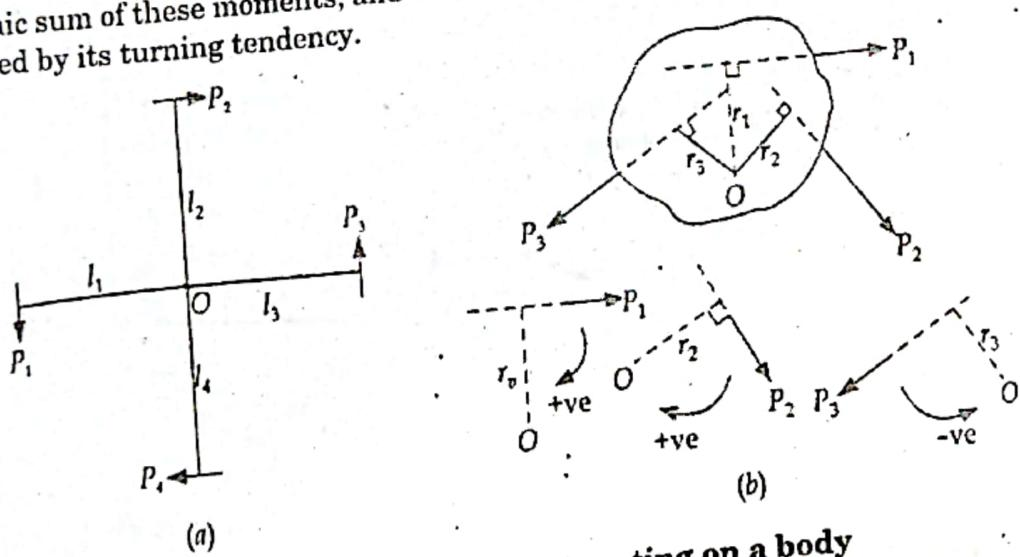

Fig. 19 Number of moments acting on a body
- If a number of moments act on a body (Fig. 19), then the resultant moment will be the algebraic sum of these moments, and the effect of resultant moment on the body will be governed by its turning tendency.
With reference to (Fig. 19 a), the resultant moment M about the point O is given by
Likewise, with reference to (Fig. 19 b), the resultant moment of forces P_1, P_2 and P_3 about point O is